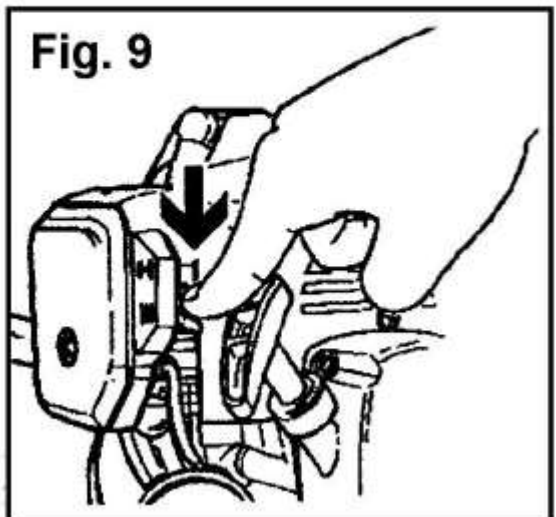

Fig. 9
7. Set the carburettor lever to run (III) (Fig.9)
Proceed as with cold engine start but with the choke lever in the run position III (Fig.9)